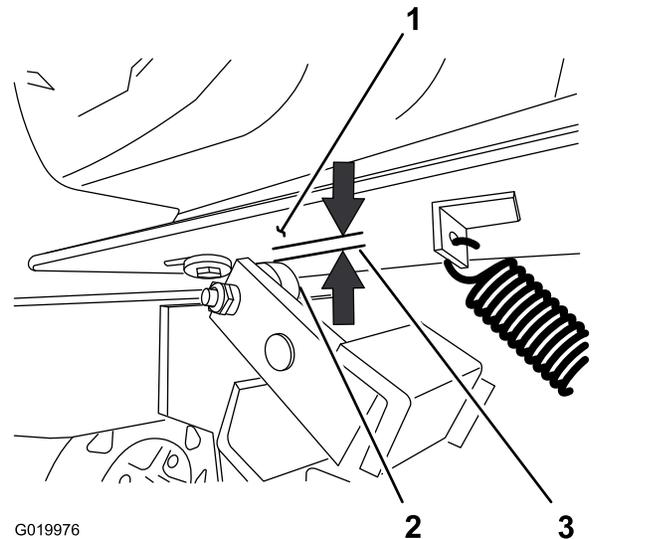

Figure 70
2. Measure the air gap between the engine deck and the roller on the clutch (Figure 70).